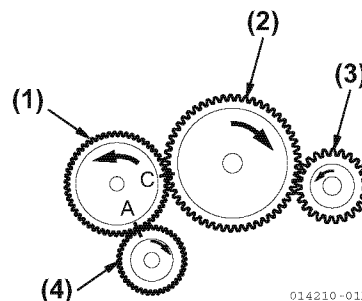

Figure 5-144
20. Measure the idler gear, camshaft gear and crankshaft gear backlash (Figure 5-144).